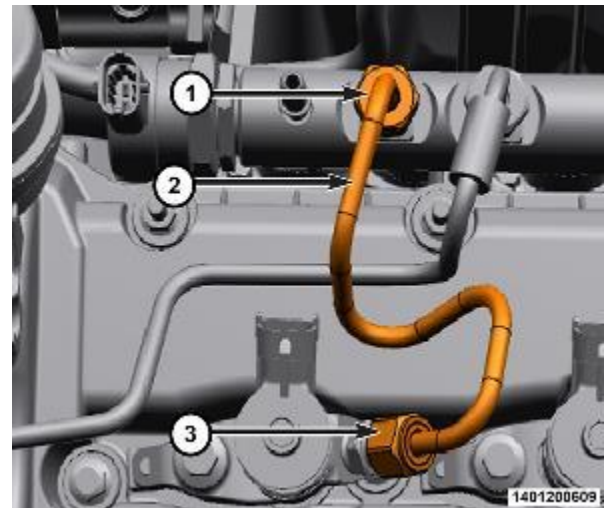

Figure 181 – No. 4 Fuel Tube
- 16. Unscrew the union nuts (1 & 3) and remove cylinder No. 4 fuel tube (2) and discard the fuel tube (Figure 181).